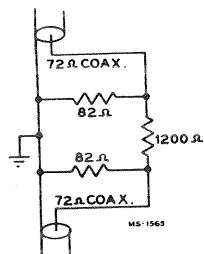

Figure 26—Sound Attenuator Pad
**Sound Attenuator Pad**—Refer to figure 26 under Alignment Procedure.